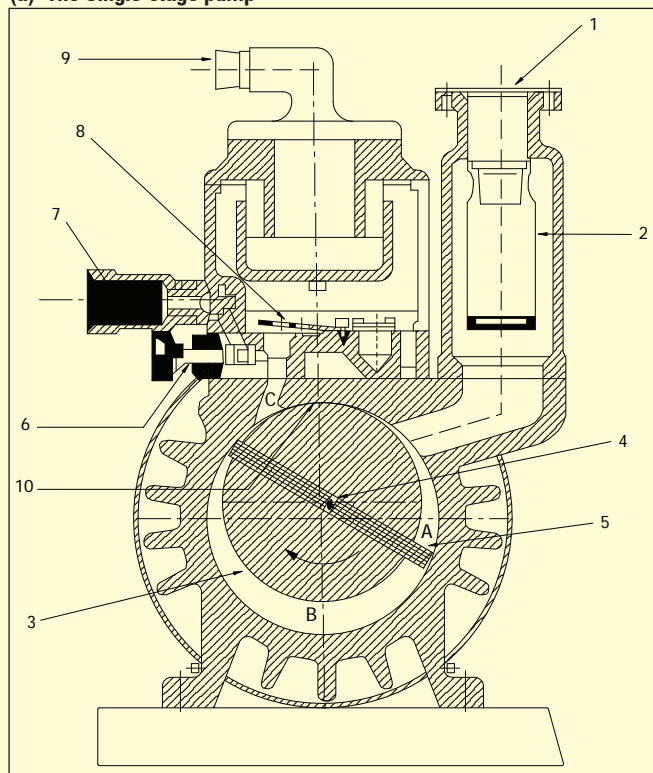
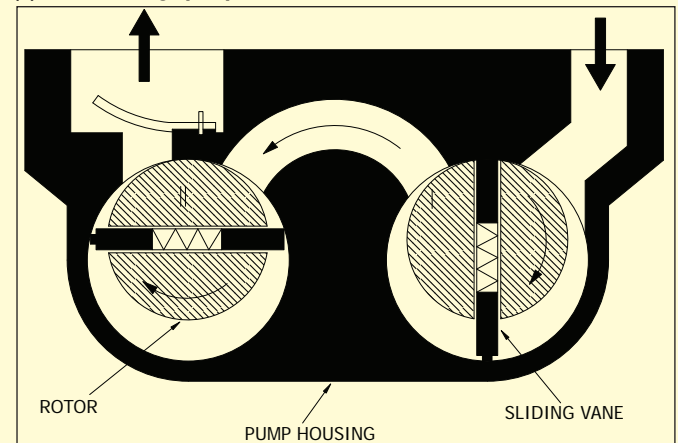

Figure 1
Figure 2
suitable. From the market and from industry data we have evidence that retrofit activities relying on ozone and climate friendly HC refrigerant is rapidly gaining momentum, partly on ground of increasing prices for CFCs. The initiatives taken by the NCCoPP, HIDECOR and ECOFRIG projects, and particularly by NCCoPP's partners Godrej & Boyce Manufacturing Co. Ltd. and Hindustan Refrigeration Systems in marketing HC refrigerants in India, have contributed greatly in the reduction of greenhouse gas emissions. An analysis shows that for the operational year 2006-2007 alone, the use of HC refrigerant led to an offset of almost 40,000 tons of CO₂ equivalent. The trend is sharply increasing as is illustrated in Figure 1. This significant impact goes beyond the immediate objective of the protection of the ozone layer. All of us, including you as a service technician have contributed directly to this. We also hope that other Indian refrigeration industries follow the HC path.
(1) Intake (2) Filter (3) Rotor (4) Spring (5) Vane (6) Gas Ballast valve (7) Filter (8) Discharge Valve (9) Exhaust (10) Sealing Surface
Figure 1 is a sectional view of a typical rotary oil-sealed sliding-vane type vacuum pump with a single-stage. All internal parts are immersed in oil. The meaning of 'single-stage' is that there is only a single rotor (3) mounted on the shaft. The rotor has two vanes (5), fitted in slots in the rotor body, that slide out as the rotor rotates. These vanes slide along the stator walls (10) thereby pushing forward the air drawn-in at the inlet (1) to eject it finally through the oil above the outlet discharge valve (8).
Single-stage pumps comprise of one rotor and stator block (Figure 1). The addition of a second stage, as shown schematically in Figure 2, by connecting the exhaust of the first stage to the intake of the second, ensures lower pressures in the system. This is due to the fluid (oil) circulating in the first stage containing less gas than the fluid in the reservoir (as the first stage receives pre-degassed oil). This ensures that the high vacuum produced in the first stage is maintained. This meets the requirements of vacuum for refrigeration systems. In actual practice, the two rotors are mounted on a common shaft in a common housing which has passages for allowing the flow of exhaust of the first stage to the inlet of the second stage.